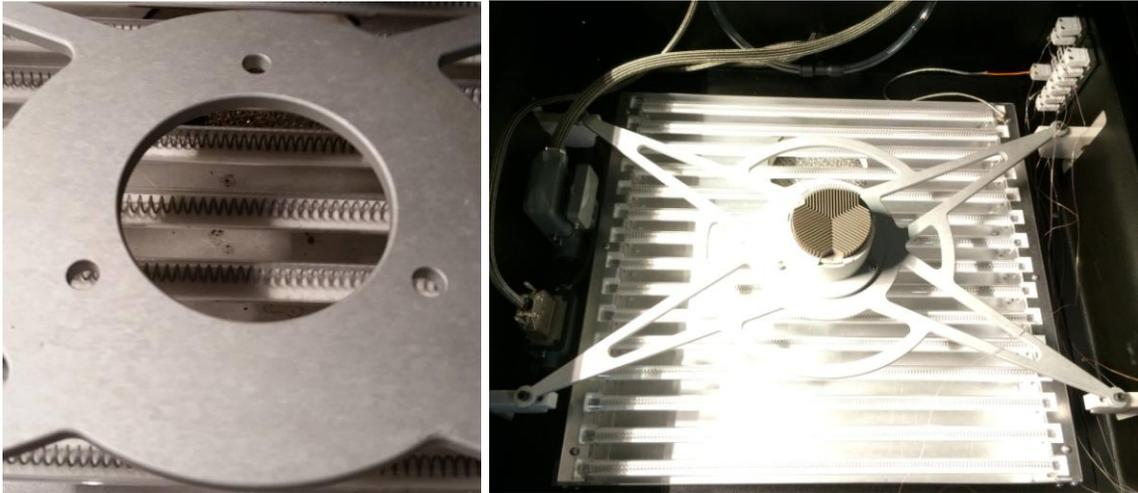

Figure 1(a-b). CRE Sample Support Orientation
- Make sure to install the sample support to match **Figure 1(a-b)**. For an addition check on orientation the name of the sample support should be facing the user.